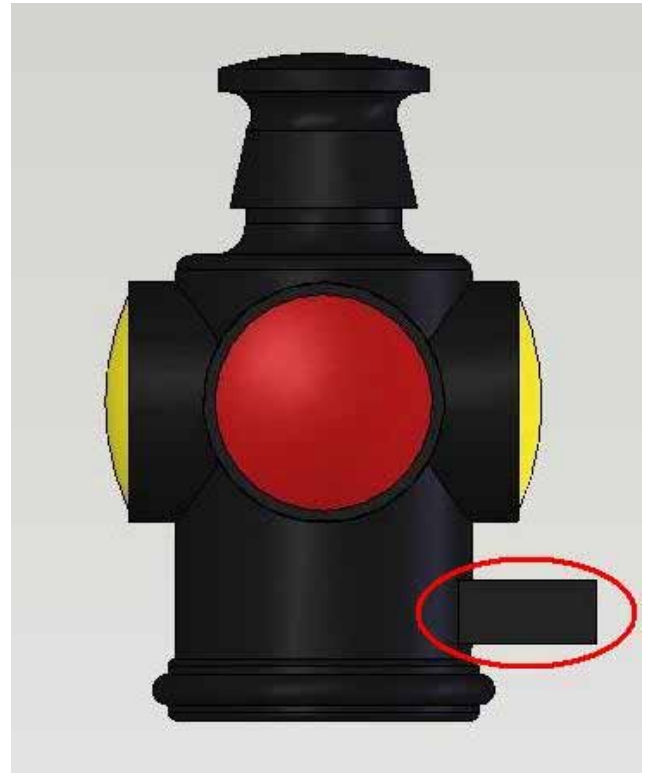

Figure 2
3. Grasp the marker lamp with the tweezers, apply ACC to the small pin on the marker lamp (shown in Figure 2), and affix the lamp to the side of the caboose body. **Make sure to mount the marker lamps with the red lenses showing to the rear of the caboose.** Repeat this process on the opposite side of the caboose.